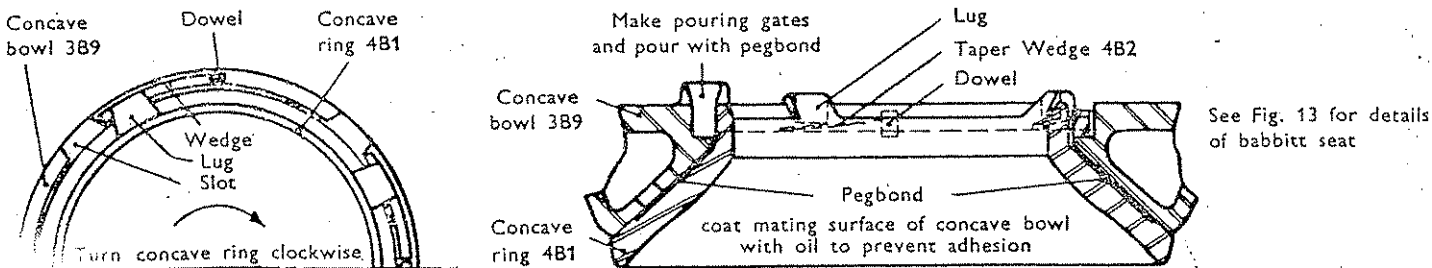

Figure 14
B. 36FC, 367S, 48FC and 489S Gyraspheres—see Fig. 14